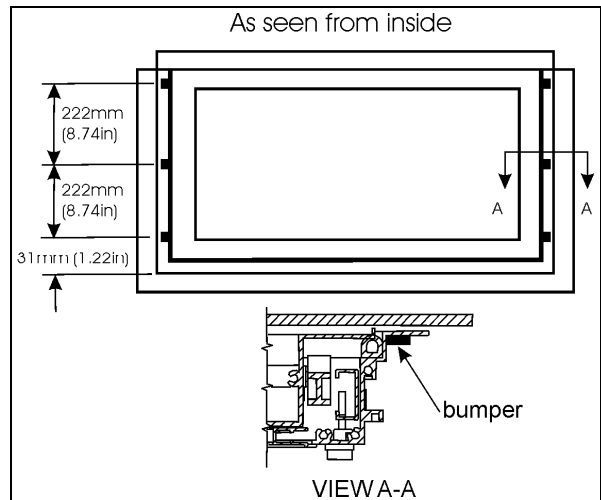

FIGURE 66: SIDE BUMPERS
2. Glue 6 rubber bumpers (#790602) on the awning window frame as per FIGURE 66;